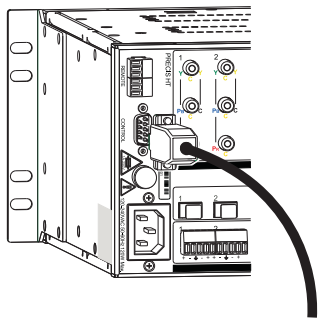

FIG. 9 Attach null modem serial cable to CONTROL port
2. Plug one end of the null modem serial cable into the CONTROL port on the enclosure (FIG. 9).